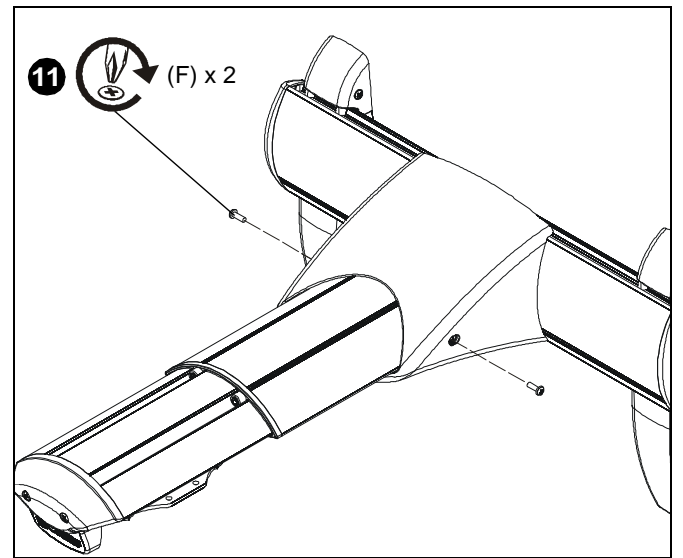

Figure 29
11. Reinstall two #8-32 x 1/2" Phillips pan machine screws (F) through holes on sides of outer cover. (See Figure 29)